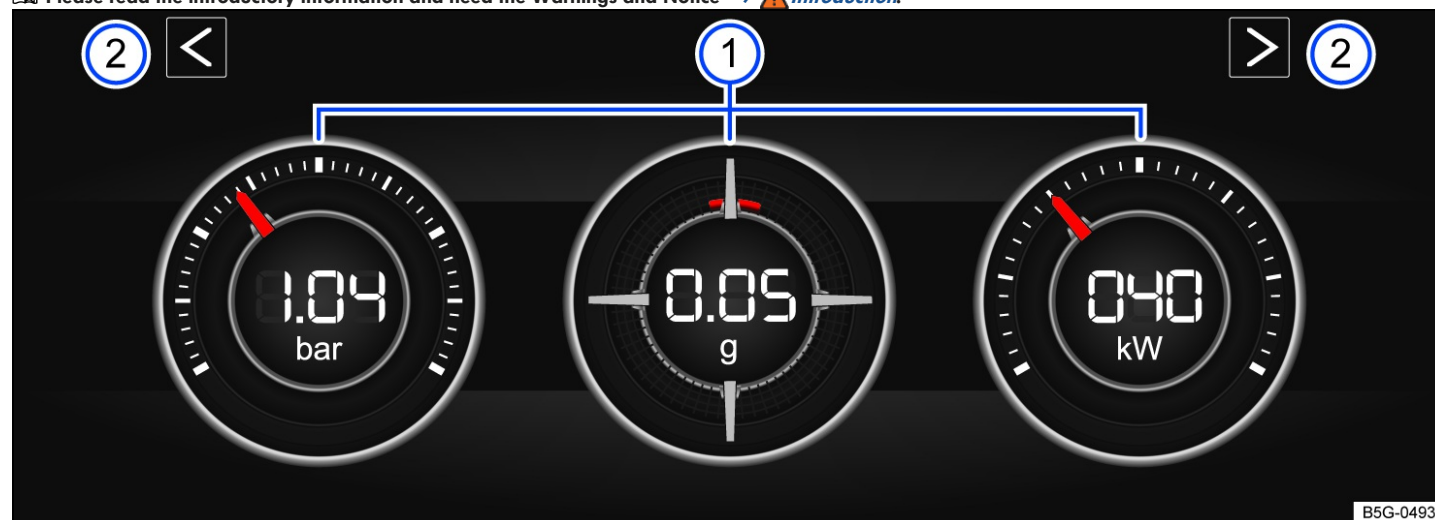

Fig. 18 On the Infotainment system screen: performance monitor.
If you want to switch between the performance monitor and the lap timer , tap one of the left or right arrow buttons above the instruments fig. 18 ②.
The display can show a maximum of three instruments at the same time. Every instrument can be selected for any display area fig. 18 ① (left, center, right).
- **Boost pressure indicator:** the boost pressure indicator fig. 18 ① (left) displays the boost pressure between the turbocharger and the engine (in “bar”). The farther to the right that the needle on the scale is, the more engine power is being used.
- **Accelerometer (G meter):** the accelerometer (G meter) fig. 18 ① (center) displays the acceleration value in the center area (in “g”). The red marking in the tab area shows the intensity of the acceleration and the direction of the force that is in effect (contrary to the physical laws). For example, if you drive to the left the red marking will move in the right area of the instrument (and vice versa). When accelerating, the red marking will move downward. When braking, the red marking will move upward. The intensity of acceleration is indicated by the position of the red marking from the inside to the outside. If you accelerate faster, the red marking will disappear from the center area.
- **Power gauge:** The power gauge fig. 18 ① (right) shows the engine power that is being currently used as a digital value displayed on the surrounding scale (in kW).